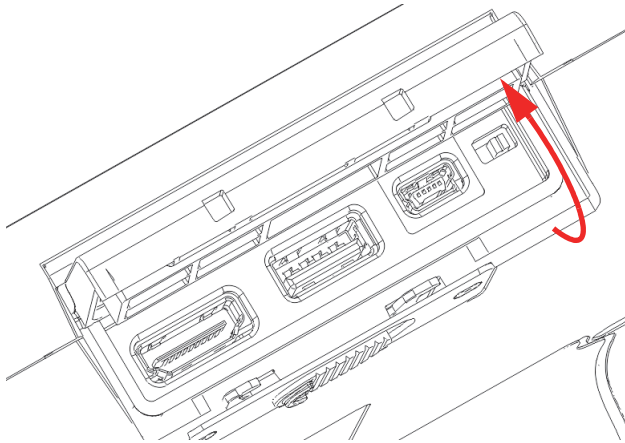

Figure 3-4 Data port—cover open
2. Swing up the cover to its fully open position (see Figure 3-4 on page 44).